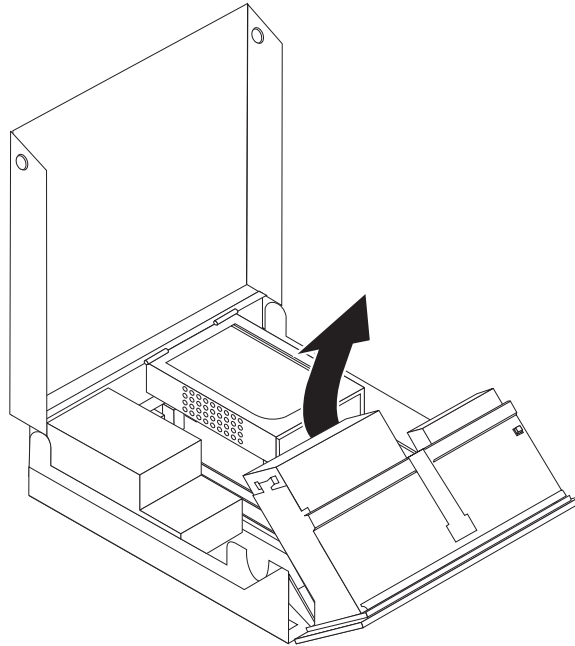

Figure 25. Accessing the optical drive
- Pivot the drive-bay-assembly upward to gain access to the optical drive. See Figure 25.